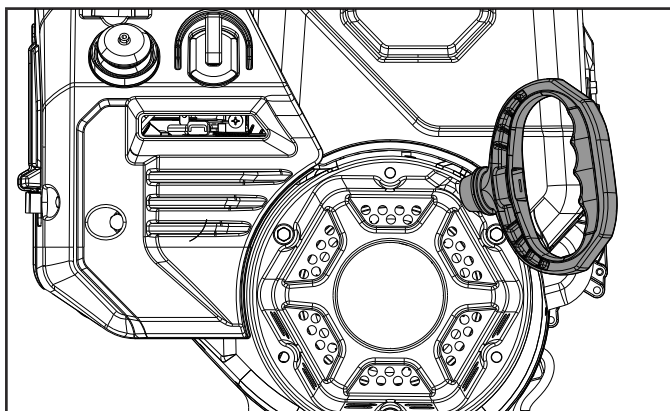

Figure 18
- Stand back and to the right of the unit, pull the starter grip lightly until you feel resistance then pull briskly. Return the starter grip gently (Fig. 18).